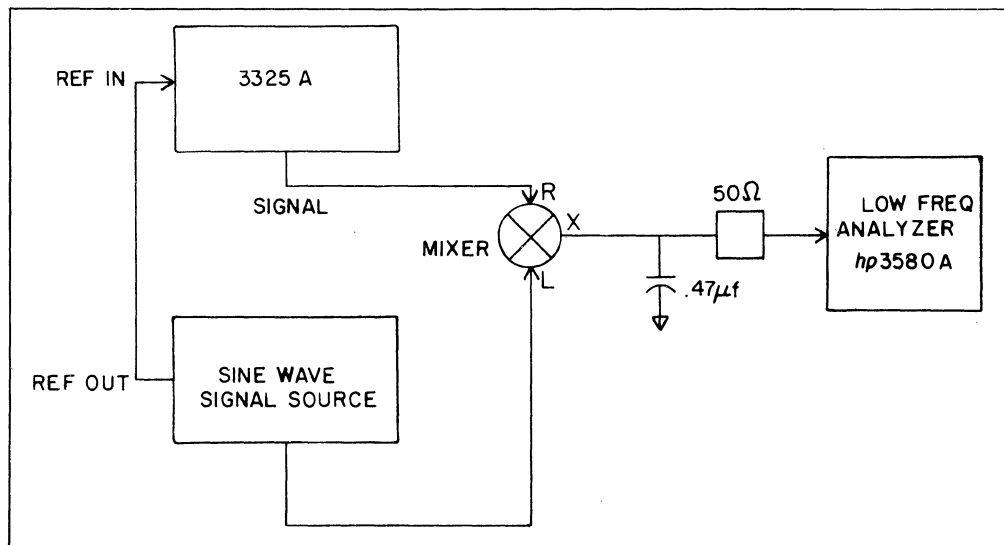

Figure 4-2(b). Harmonic Distortion Test at 50 kHz.
e. Disconnect the 3325A from the high frequency spectrum analyzer and connect as shown in Figure 4-2(b).